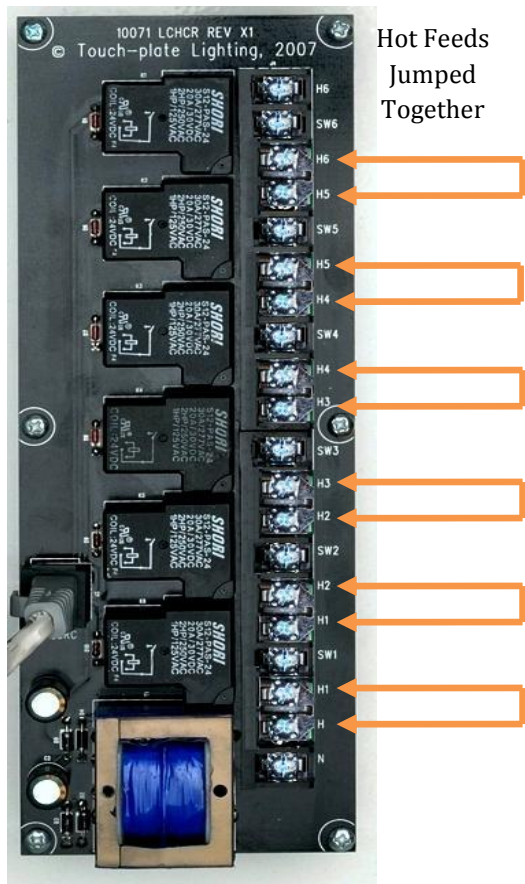

Figure 6.1
Figure 6.1 shows a 10071 Relay Board. The 10071 Relay Board has electronically held relays that are rated at 20AMPS. There are 6 relays and a transformer per board. The transformer performs the same functions as the TVR-1 / TPS-0120, which supplies power to the relay and the low voltage circuitry. The 10071 Relay Board uses 20-AMP electrically held relays. The Relay Board will come from the factory with 'jumpers'. 'Jumpers' allow all six (6) relays to share one (1) hot feed. If more than one (1) hot feed is desired or needed, the jumper(s) can be removed so the new hot feed can be wired.